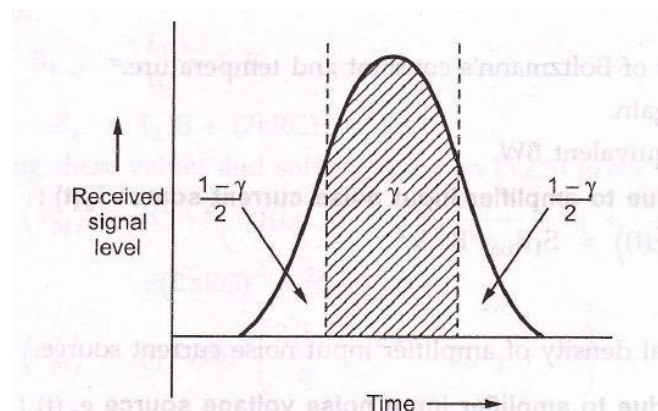

Fig. 5.2.1 Pulse spreading in adjacent time slot
- Intersymbol interference (ISI) also contributes to error which is caused from pulse spreading. Because of pulse spreading energy of a pulse spreads into neighbouring time slots, results in an interfering signal. Fig. 5.2.1 shows ISI.
- Energy in appropriate time slot is  $\gamma$ . The total energy in adjacent slots is  $1 - \gamma$  as shown in the Fig. 5.2.1.